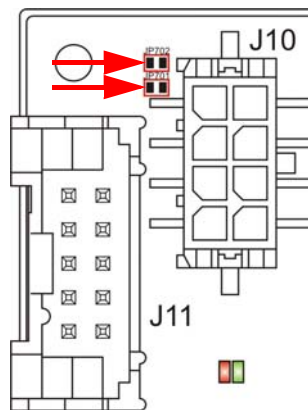

Figure 4-29 Controller PCB – Solder Pads (JP701 & JP702)
- 1) Find solder pads (→ Figure 4-29, arrows) on controller PCB.